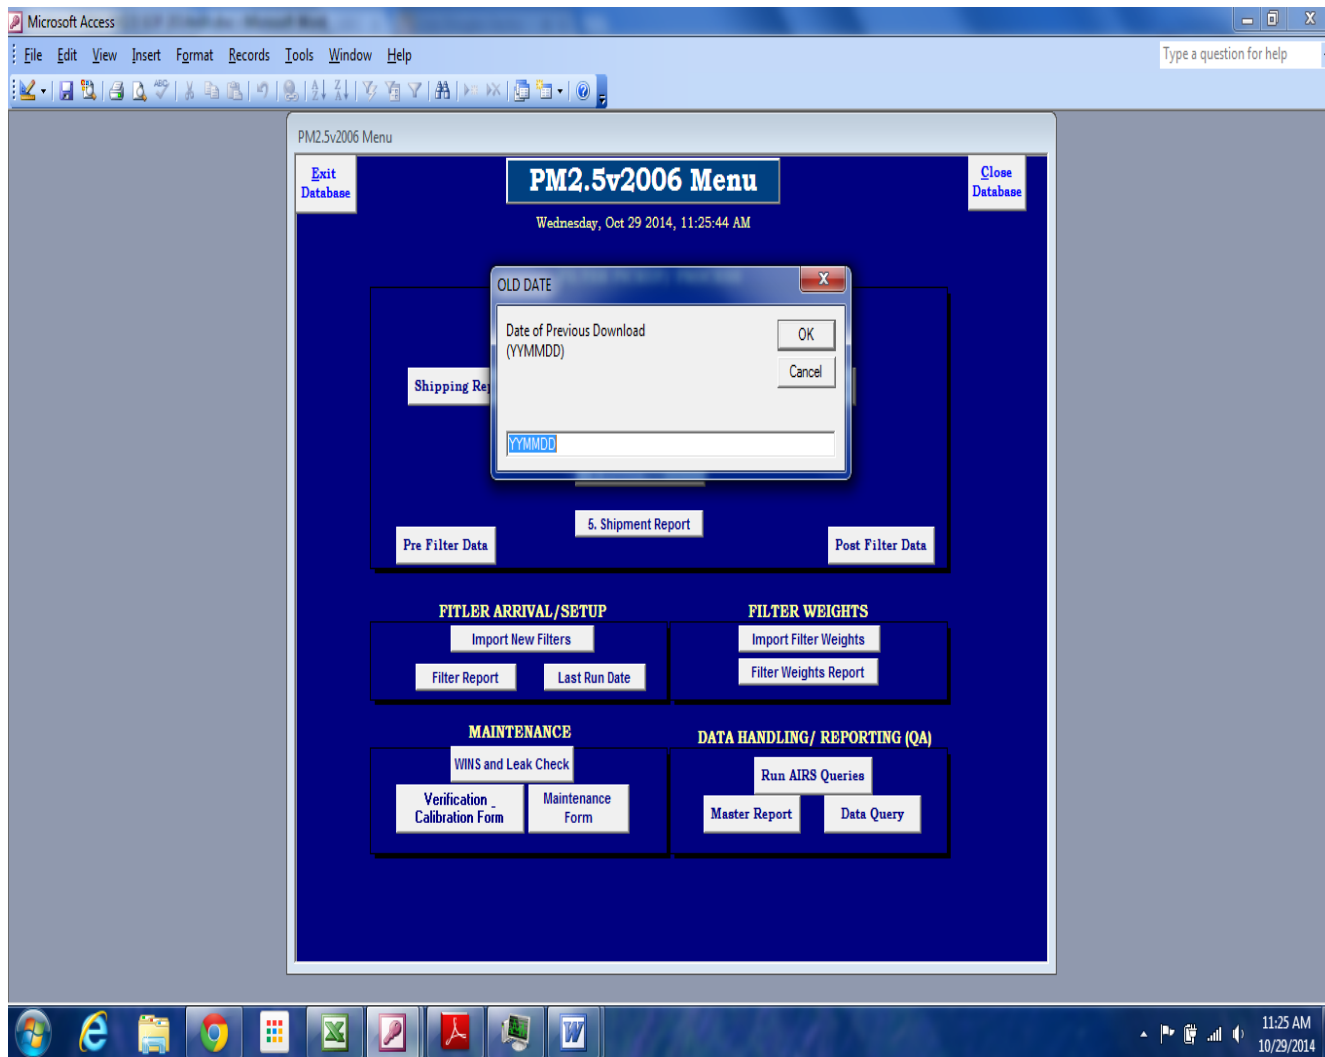

Figure 20: Previous Download Date Input
6.4.3.1.4 Enter previous download date (YYMMDD) (see Figure 20). Press OK. If you enter wrong previous download date or wrong format, an error will occur. Fix as needed.